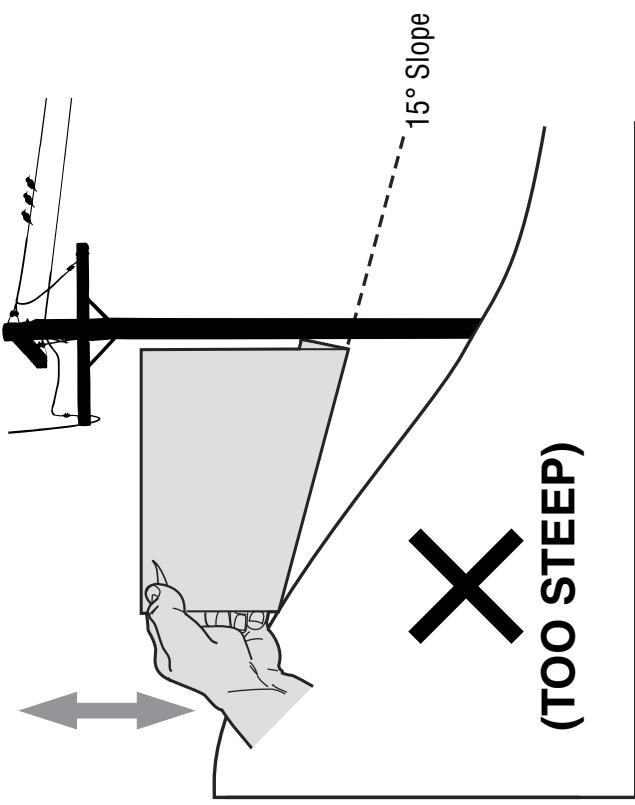
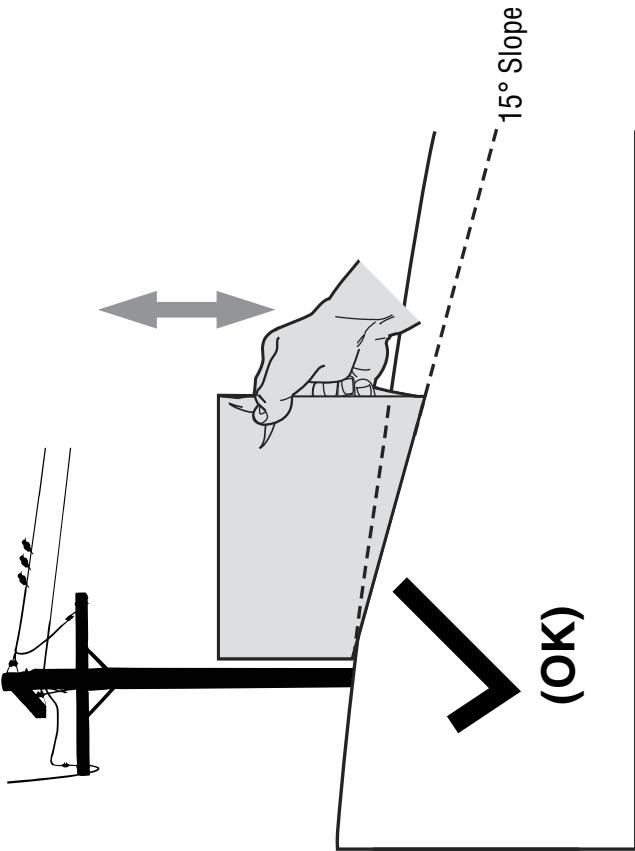

Figure 2
Figure 1
3. Align either side of the slope gauge with the object (See Figure 1 and Figure 2).